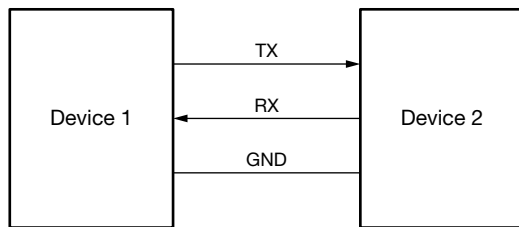

Fig. 1 - RS-232 Connection
The RS-232 bus is a serial, single-ended bus system with a data transfer rate up to 115.2 kBd. The application areas are computer to computer or computer to peripheral devices communication, like a printer, mouse, and so on. As shown in Fig. 1, three lines are required for data transmission: the data transmitting line (TX), data receiving line (RX), and a common ground line (GND).